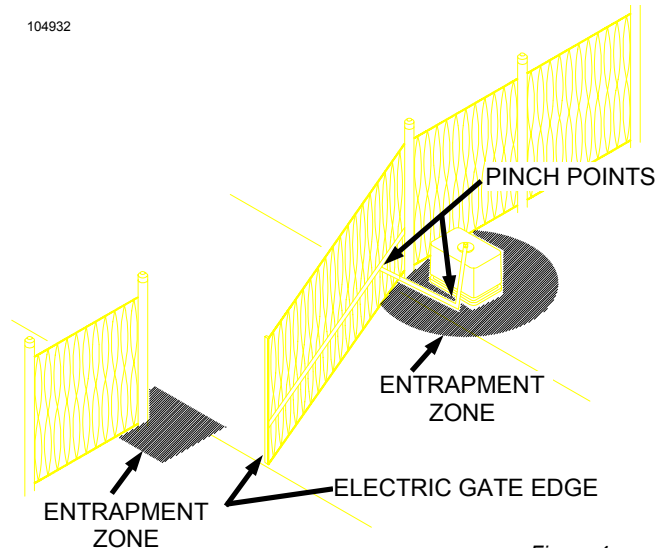

Figure 4
- SWING GATES HAVE THE POTENTIAL HAZARD OF HANDS AND FINGERS BEING PINCHED between the gate edge and the post to which the gate is mounted. It is recommended that the hinges be mounted so that this opening increases as the gate swings open. **PROTECT THIS "PINCH POINT" SO THIS HAZARD IS AVERTED.** See Figure 4.
- CONSIDER ALL OTHER "PINCH POINTS" IN YOUR DESIGN of the gate system. Observe the arm as it opens and the two arm pieces swing past each other. Use protective measures to reduce hazards at this location. Restrict access to the arm motion. See Figure 4.
- IDENTIFY THE ENTRAPMENT ZONES AND PINCH POINT AREAS PER FIGURE 4. Design the gate installation to minimize the risk of entrapment in these areas. Install additional safety equipment such as four wire edges and photocells to further minimize risk. All entrapment zones are required to be protected.